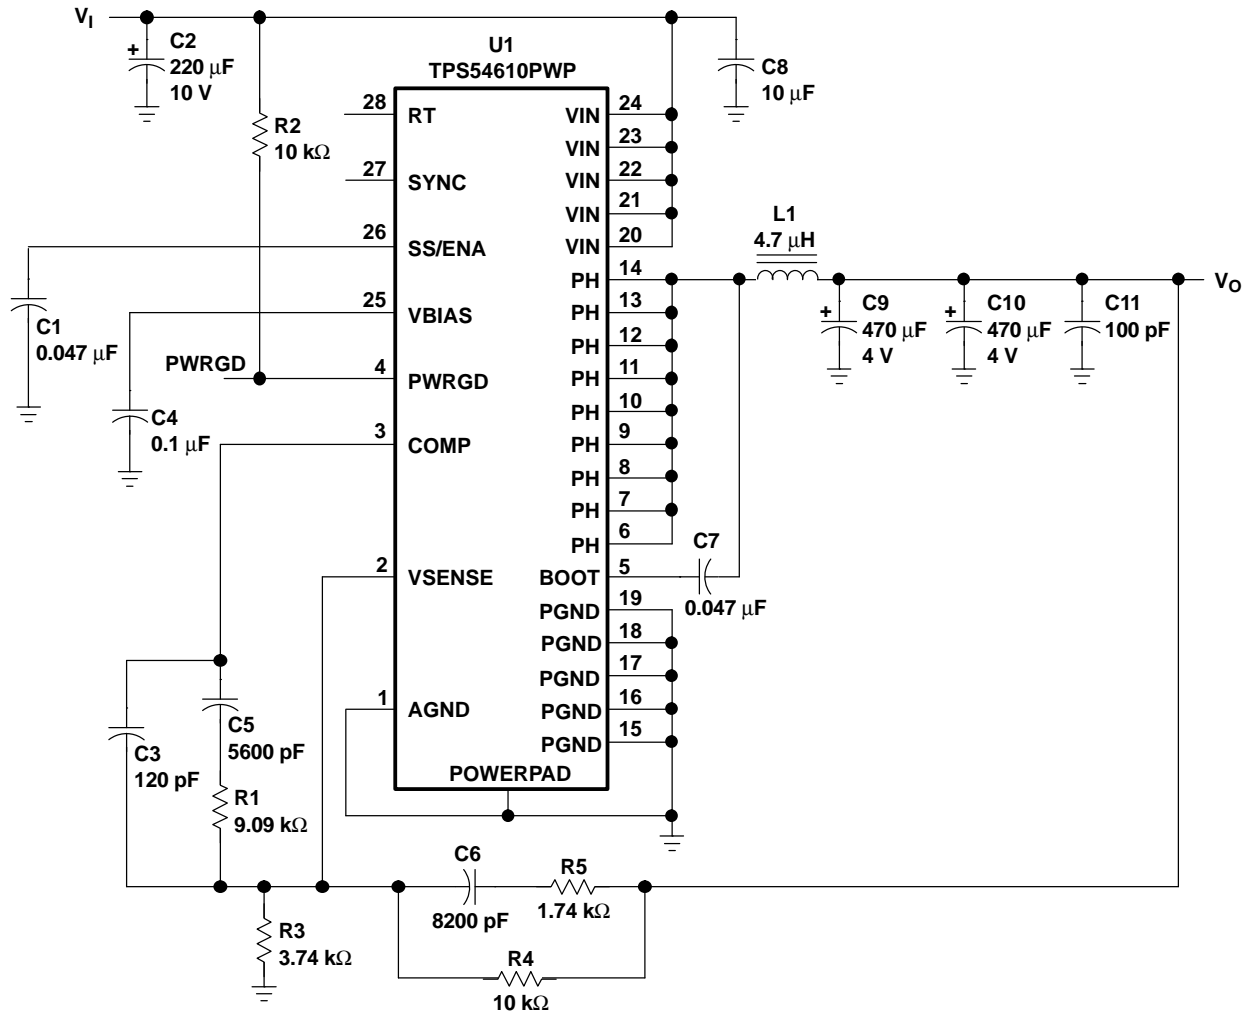

Figure 10. Application Circuit
(1) Specified by design
(2) Static resistive loads only
(3) Specified by the circuit used in Figure 10
Figure 10 shows the schematic diagram for a typical TPS54610 application. The TPS54610 (U1) can pro-